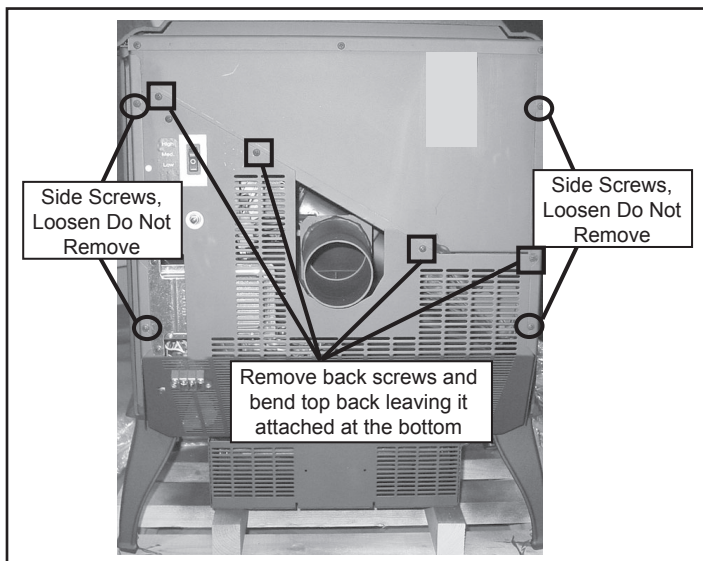

Figure 21.1
- Remove 4 screws from the back screen and pivot the top of the screen toward you leaving the bottom attached to appliance. **Figure 21.1.**